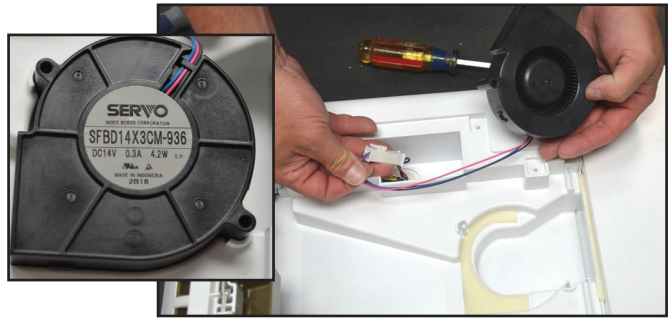

FIGURE 38
- Lift out the fan motor and disconnect the wire harness. See *Figure 38*.